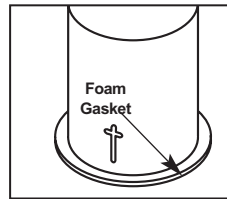

Figure 3
**Step 2.** Locate Air-Loc gasket kit envelope supplied in fixture carton. Place foam gasket on the top surface of the metal ring of can (Fig 3).